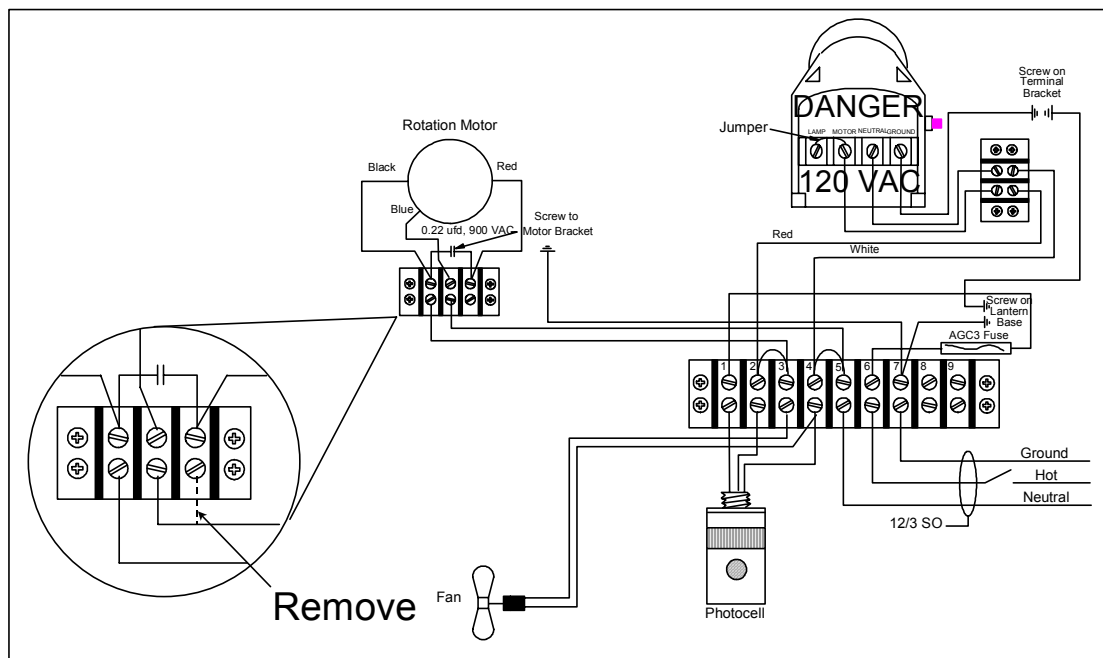

Figure 3-3 (without heat switch)
7. Figure 3-3, cross out the jumper on the small terminal strip connected to the rotation motor, and add the notation “(without heat switch)”, as shown below: